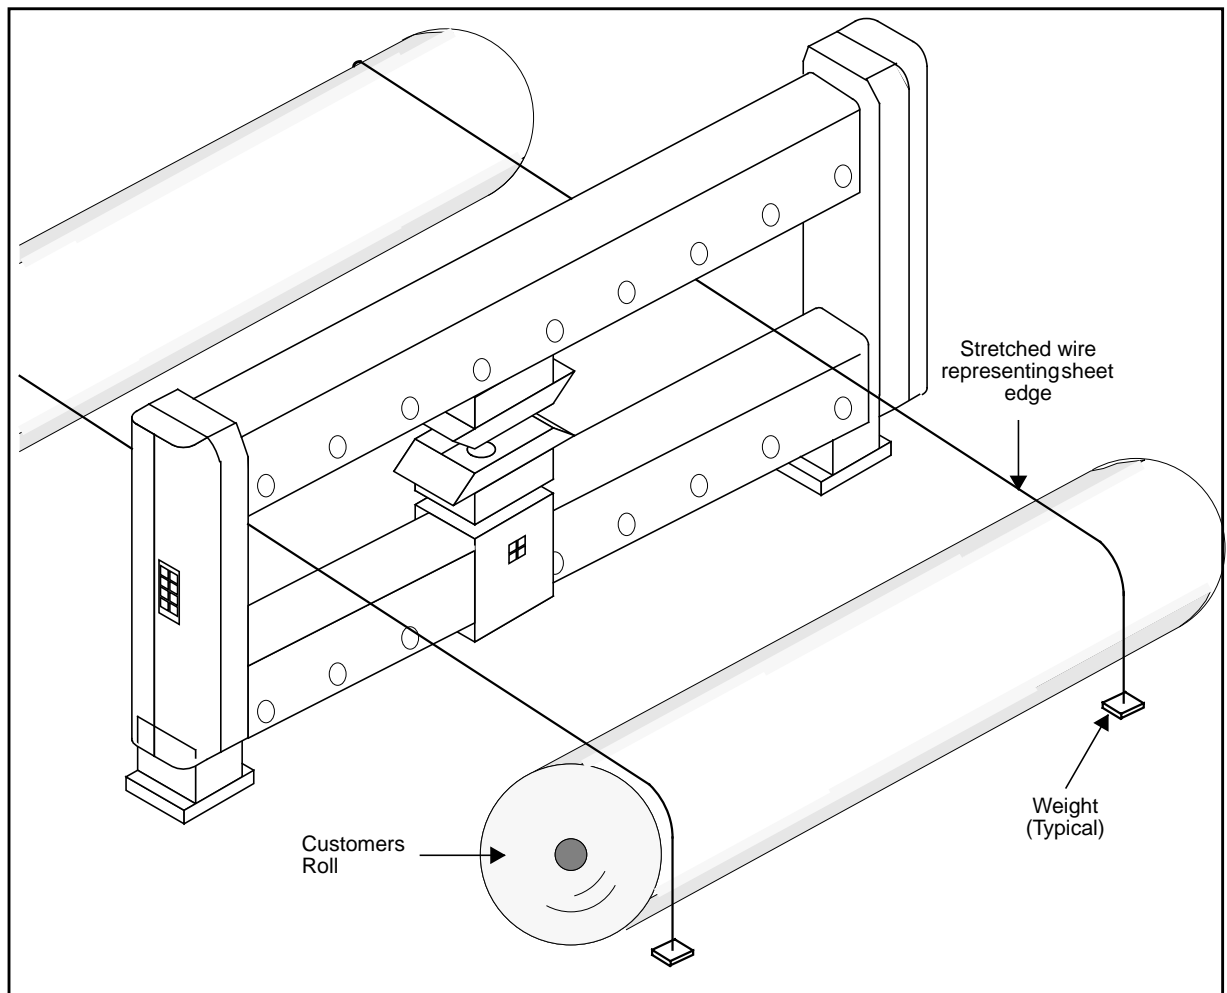

Figure 3-7 Preliminary Alignment Setup
7. Thread two parallel lengths of wire over the rolls onto which the process is to be guided. Refer to Figure 3-7 on page 40.
16. Rethread the two parallel lengths of wire over the rolls onto which the process is guided. Refer to Figure 3-7 on page 40.